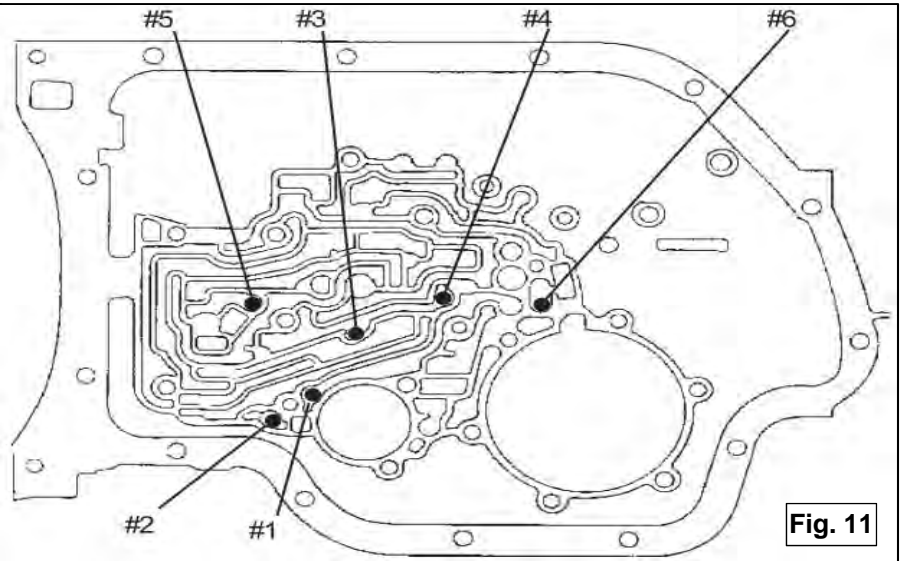

Fig. 11
9. Check Ball Placement: Install check balls in the locations shown in Figure 11 as follows: Heavy Duty: Six check balls, one each, in locations 1-6.